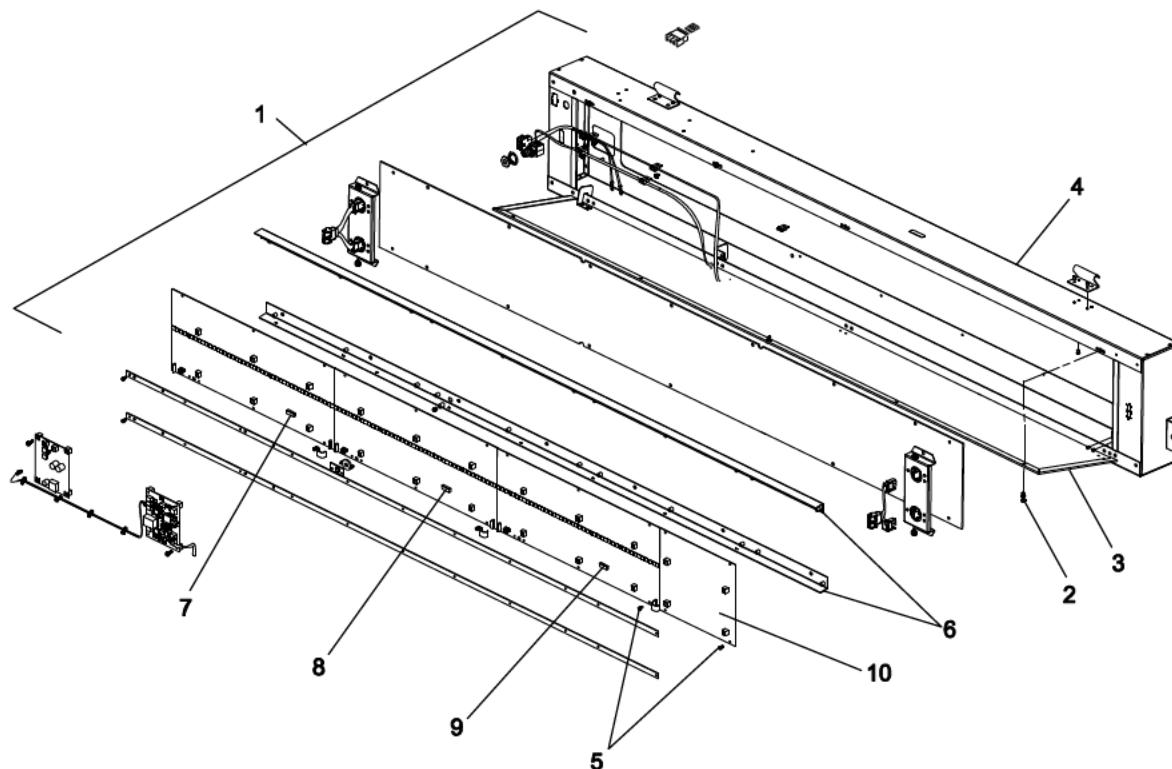

Figure 7-14: Replace Front Destination Sign LED Display Matrix PCB
1. Remove front destination sign assembly (1, Figure 7-14) from its mounted location.
2. Remove ten 6-32 x 5/16 SEM screws (2) that secure backplate assembly (3) to front panel assembly (4).
3. Carefully separate backplate assembly (3) from front panel assembly (4) to access electrical wiring and harnesses.
5. Remove 6-32 x 5/16 SEM screws (5) that secure the defective LED Display Matrix PCB (7, 8, 9, or 10) to the bracket assembly (6). There are six screws on each destination matrix and four on the route code matrix.
7. Install the replacement LED Display Matrix PCB using the 6-32 x 5/16 SEM screws (5) that were removed previously.
8. Verify that the DIP switch setting on the first LED Display Matrix (7) is: